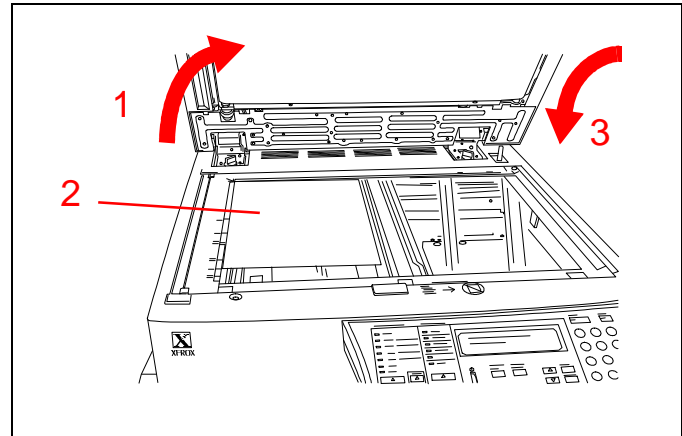

Figure 42
- See Figure 42. Raise the document glass cover or ADF.